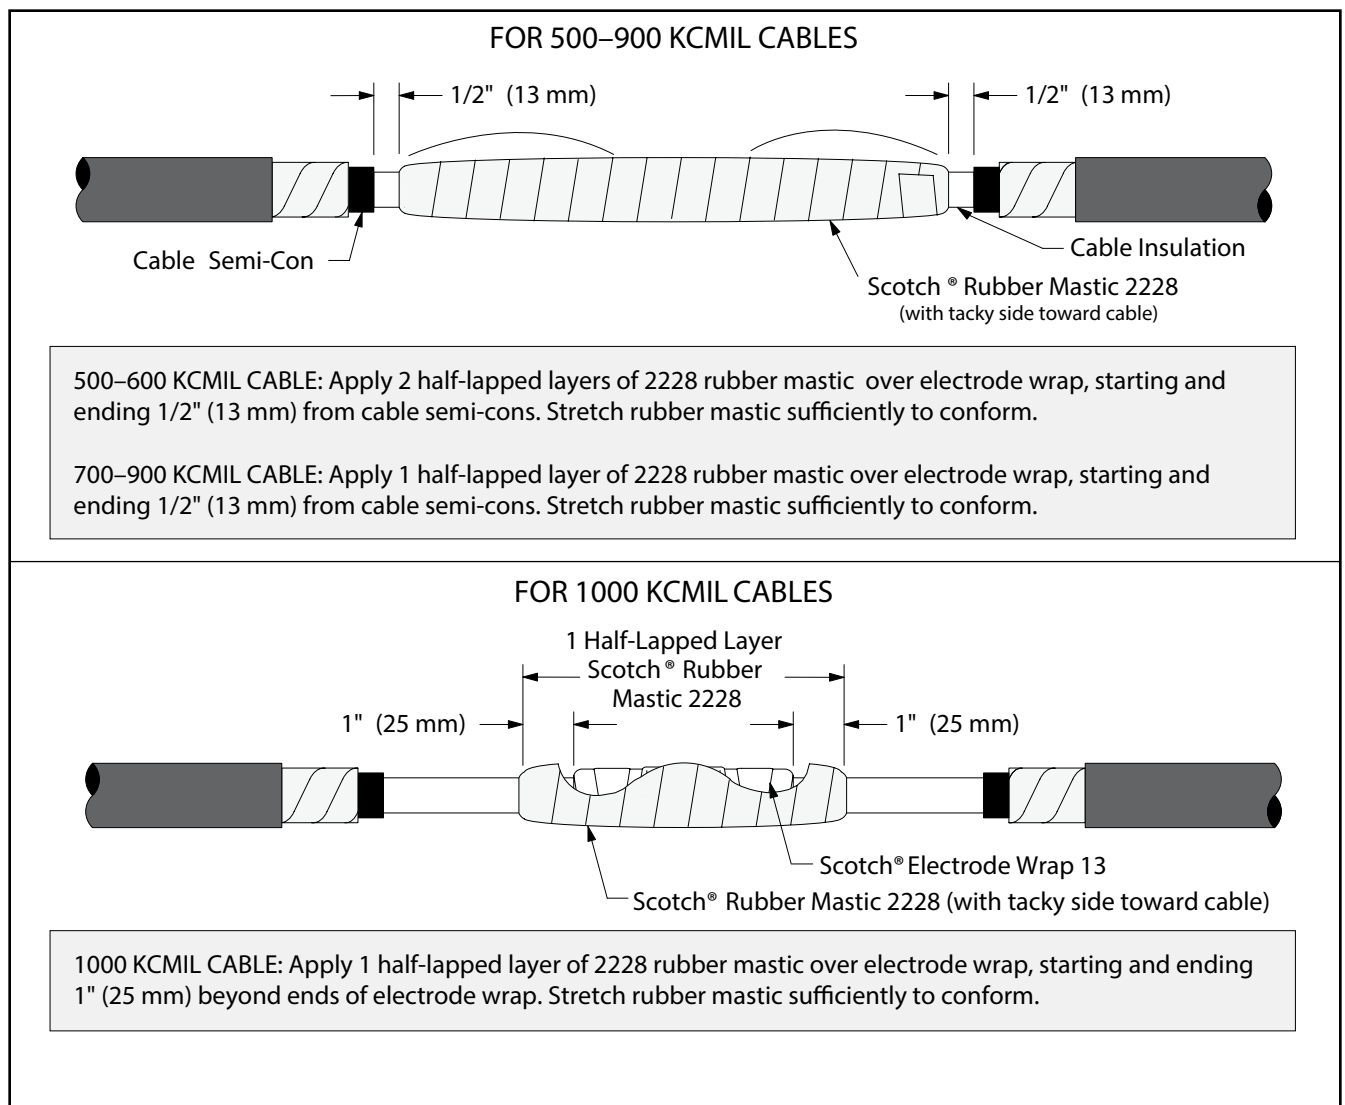

Figure 10
- 6.1 Apply Scotch® Rubber Mastic 2228 tacky side down toward cable (*Figure 10*).